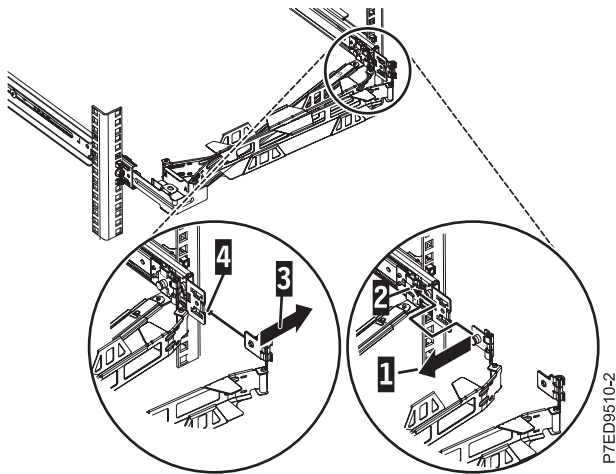

Figure 16. Connecting the cable-management arm
5. Place the cable-management arm on the support arm. Pull out the cable-management arm pin (1), and then slide the cable-management arm tab (2) into the slot on the inside of the right slide rail. Push the tab until it snaps into place. Pull out the other cable-management arm pin (3), and then slide that cable management arm tab into the mounting bracket slot (4) on the outside of the right slide rail. Push the tab until it snaps into place, as shown in Figure 16.